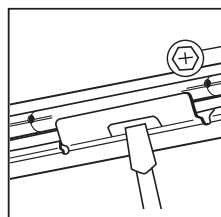

Figure 5
Step 2. Slide fixture along bar hangers into desired location. Use locking screws or slot to secure (Fig 5)